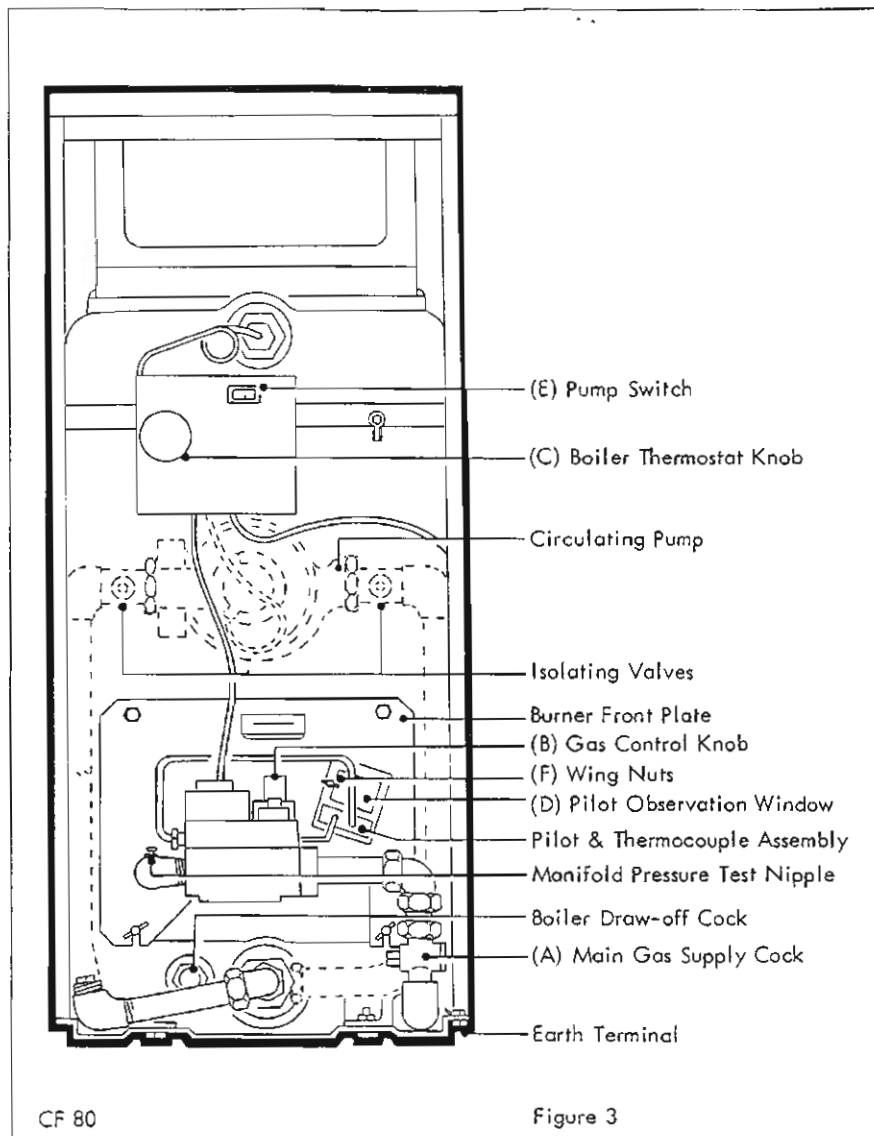

Figure 3
Note: Refer to Figure 3.
(B) For 80 size BOILERS ONLY (Fig. 3)